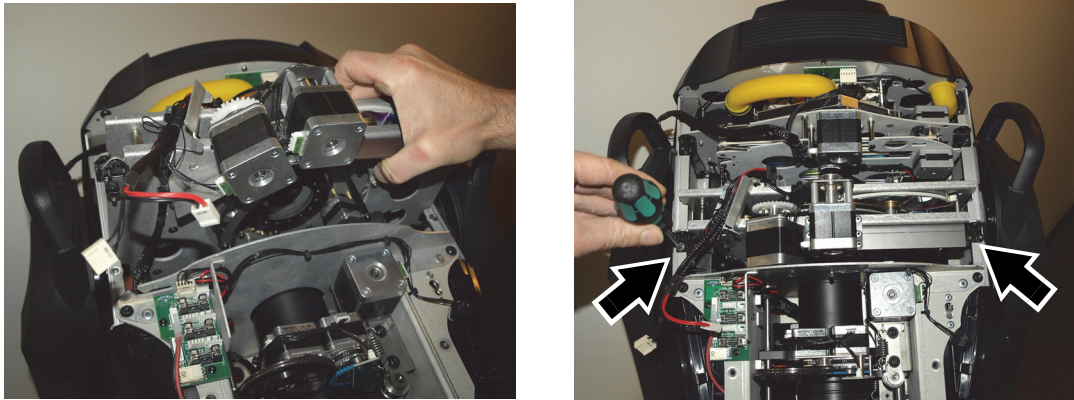

Figure 19: Fastening the IBD module
8. To install the IBD module in a MAC Viper Wash, see Figure 19. Slide the zoom-focus car fully forwards and lower the module into the head as shown. Fasten the module in place with its two Torx 20 retaining screws (arrowed).